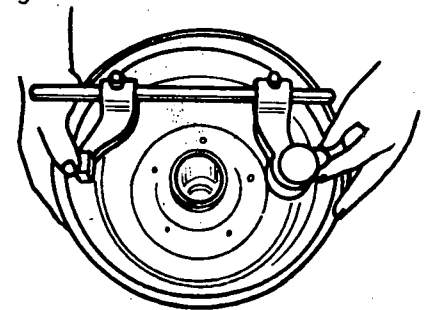

Fig. 1
b) Measure the diameter of the drum to determine the out-of-roundness, its taper state or deformations, using a drum gauge and bearing the specifications in mind (fig. 1).